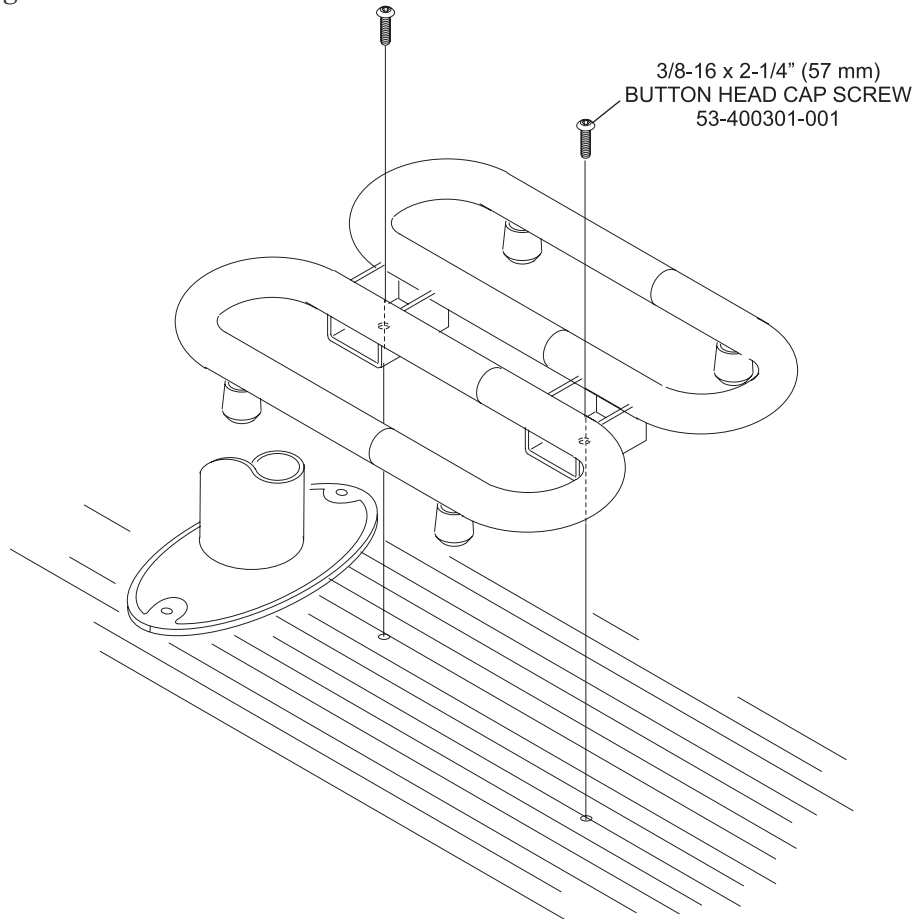

Figure 5
3. Secure rack to floor with 3/8-16 x 2-1/4" (57 mm) button head cap screws (53-400301-001). Refer to *Figure 5*.